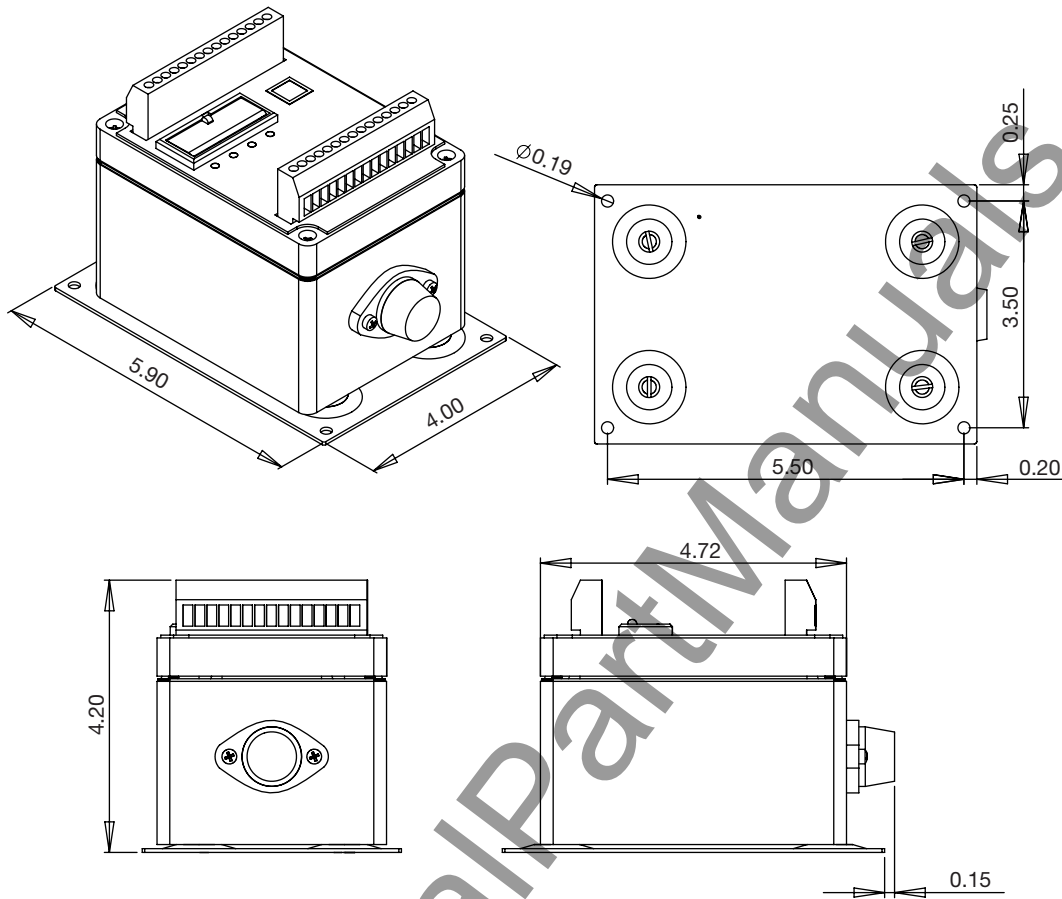

Figure 11.1 GCHK-100 Main Relay Outline Dimensions (inches)
**Dimension:** See Figs. 11.1 to 11.4